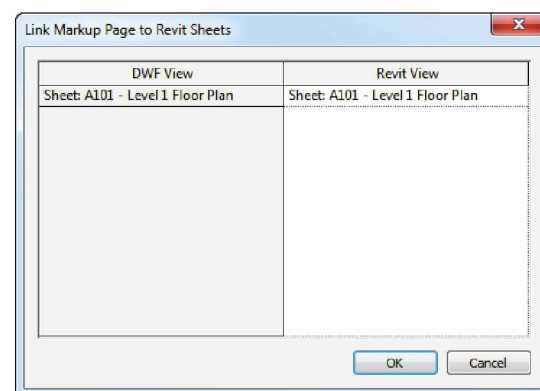

FIGURE 16-3.7 Import markup prompt
25. Click **OK** (Figure 16-3.7).